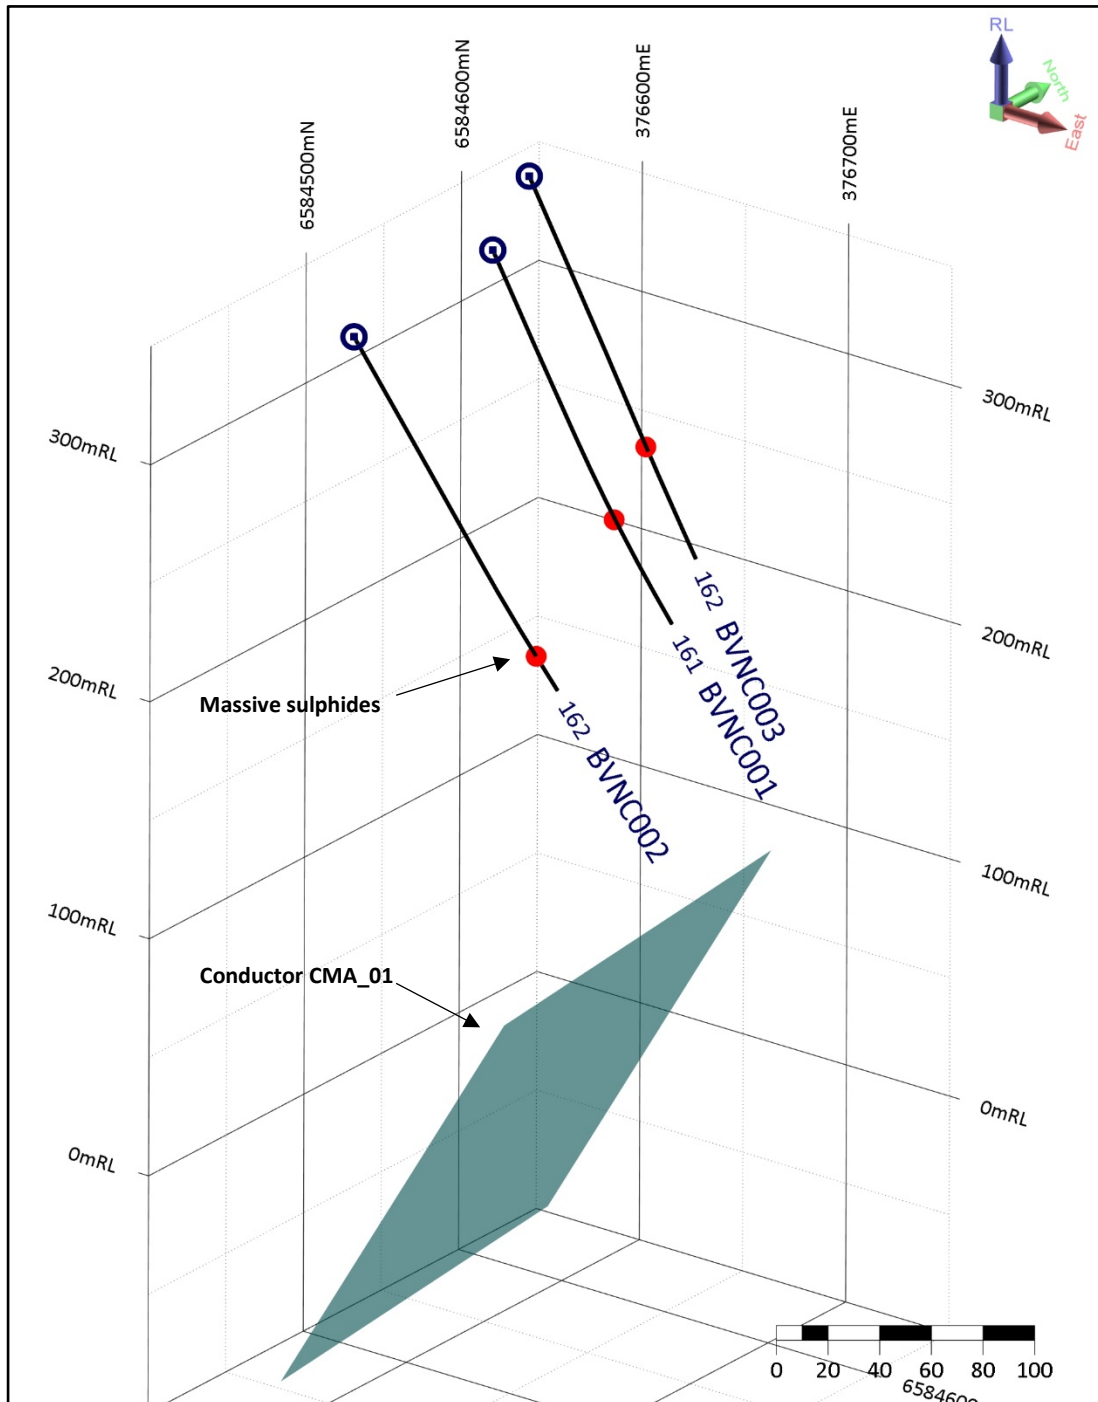

Figure 3. Location of RC drillholes with modelled conductive plate **CMA_01**. Red dots mark the location of the ultramafic basal contact.
Due to the deep weathering and transitional nature of the massive sulphides and minerals present (predominantly violarite, FeNi_2S_4 and pyrite, FeS_2) only a weakly conductive response has been detected from electromagnetic (EM) surveys to date. However a poorly constrained conductive response is evident from downhole electromagnetic (DHEM) surveys in all three RC holes drilled at Commodore and a preliminary plate model (**CMA_01**) is shown in Figure 3.